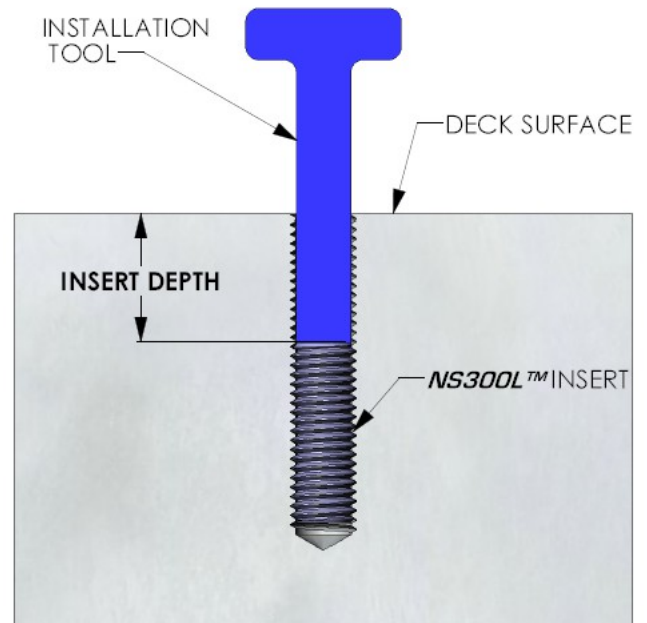

FIGURE 4
7. Blow all chips from newly threaded hole. Clean the threaded hole and insert with contact cleaner or brake cleaner. Check insert depth by installing an insert using using the “T” shaped Installation Tool provided in your kit *prior* to adding thread Threadlock. Measure from the top of the deck surface down to the top of the insert as shown in Figure 4. Insure that the top of the insert can be installed to the correct depth as listed below. Remove the insert. Add a couple drops of Threadlock to the newly threaded hole approximately ½” to ¾” from the deck surface. Add thread lock to the outside diameter of the insert. **DO NOT GET THREADLOCK ON THE INTERNAL THREADS OF THE INSERT.** Install the insert with the installation tool, making certain the top of the insert is installed to the correct depth as shown in figure 4. Allow Threadlock to set for 2-3 hours before installing the head bolts. Insure there are no sharp edges protruding up from the newly threaded holes before installing the head gaskets and alignment bushings.